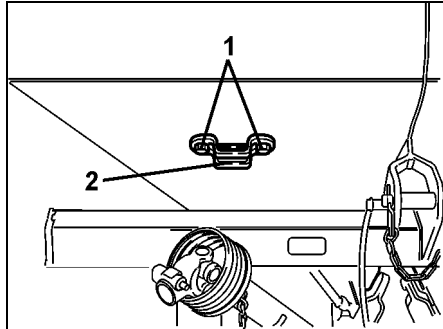

Fig. 75
- Drill two holes ($\varnothing$ 12 mm) for the fixing bolts (Fig. 75/1) in a suitable position.
- Fit carrier (Fig. 75/2) with fixing bolts (Fig. 75/1).